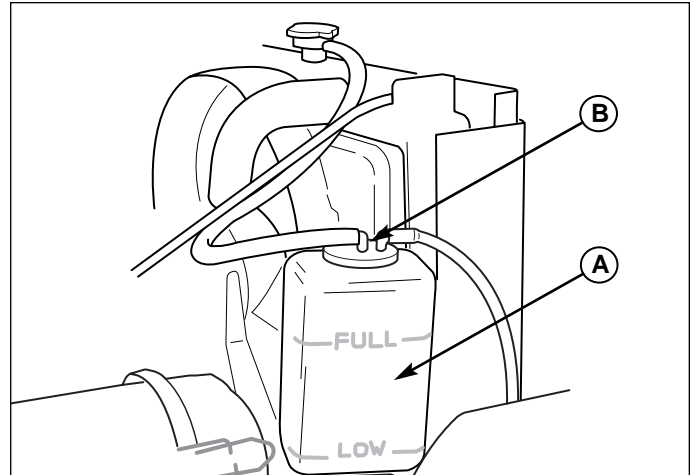

Figure 21. Engine Coolant and Overflow
1. Check the coolant in the overflow reservoir (A, Figure 21). Coolant should be between the "FULL" and "LOW" marks on the tank.
2. If coolant level is below the "LOW" on the overflow reservoir, add coolant by shutting off the engine, allowing the engine to cool, removing the reservoir cap (B, Figure 21) and adding coolant. Refer to Engine coolant container for proper mix ratio of Engine coolant and distilled water.